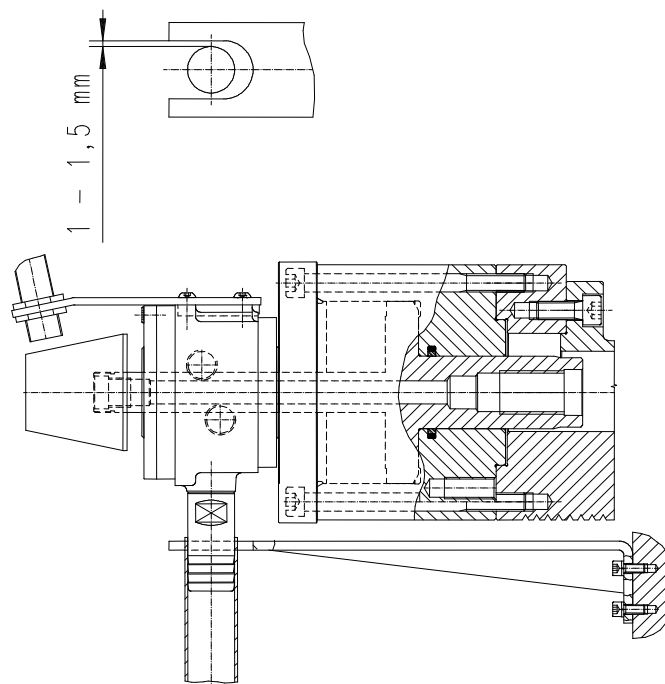

Fig. 4
7.3. Stationary feeder should be protected against rotation with a console fastened to the machine body (Fig. 4) The console must not put pressure to the feeder housing neither radial nor axial. It is recommended that the radial play between the console and the feeder housing amounts to 2 - 3 mm at the very least. This allows keeping of the oil leakage conduit and the coolant drain conduit in vertical position, thus facilitates gravitational draining of the fluid. Recommendations concerning location of the console are shown on the Fig. 4.